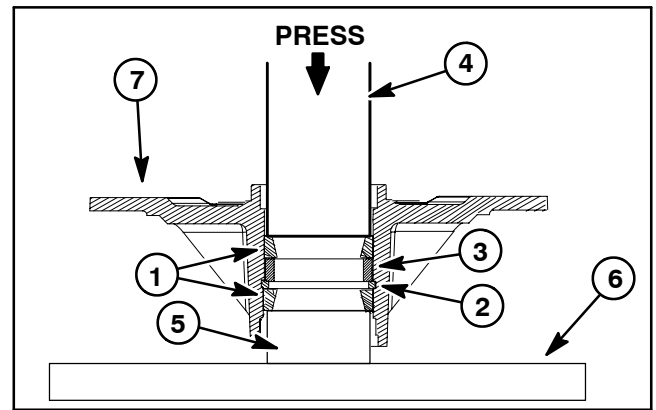

Figure 17
3. Thoroughly oil the bearing cups. Using an arbor press, push the bearing cups into the top and bottom of the spindle housing. The top bearing cup must contact the spacer previously installed and the bottom bearing cup must contact the snap ring. Make sure that the assembly is correct by supporting the first bearing cup and pressing the second against it (Fig 17).